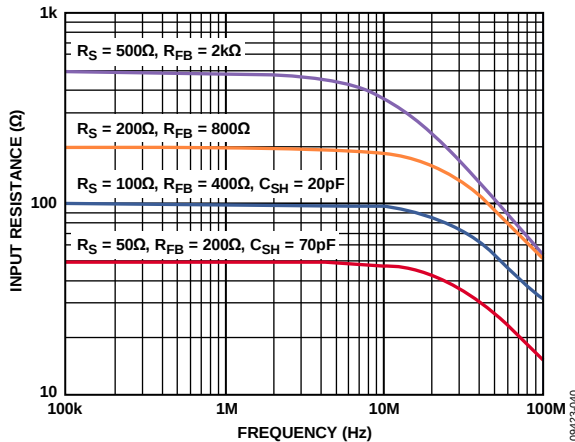

Figure 46.  $R_{IN}$  vs. Frequency for Various Values of  $R_{FB}$  (Effects of  $R_{SH}$  and  $C_{SH}$  Are Also Shown)
The bandwidth (BW) of the LNA is greater than 100 MHz. Ultimately, the BW of the LNA limits the accuracy of the synthesized  $R_{IN}$ . For  $R_{IN} = R_S$  up to about 200  $\Omega$ , the best match is between 100 kHz and 10 MHz, where the lower frequency limit is determined by the size of the ac coupling capacitors, and the upper limit is determined by the LNA BW. Furthermore, the input capacitance and  $R_S$  limit the BW at higher frequencies. Figure 46 shows  $R_{IN}$  vs. frequency for various values of  $R_{FB}$ .